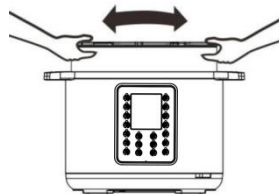

Figure 14
Be certain the inner receptacle, where the heating plate (14) is located, is clean and dry before inserting the Inner Pot (6) into the pressure cooker and adjust the pot left and right to ensure optimal contact between the Inner Pot and the heating plate (14) (Figure 14)
NOTE: You cannot adjust the Pressure Limiting Valve to the “Exhaust” position immediately after cooking, when using functions such as porridge or, soup. It is IMPORTANT that the Float Valve (5) sinks before any attempts are made to open the lid.(Figure 14)